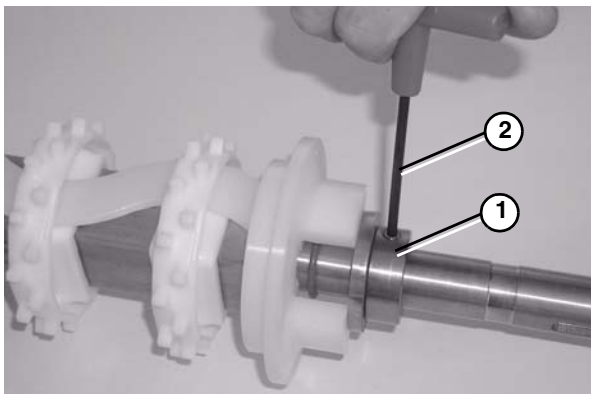

Figure 73
- Slide the retaining ring (**Figure 73, item 1**) onto the drive spindle. Leave a slight gap between ring and washer to allow flanged puck to spin freely.
- Tighten the retainer ring fastener using a hex wrench (**Figure 73, item 2**).